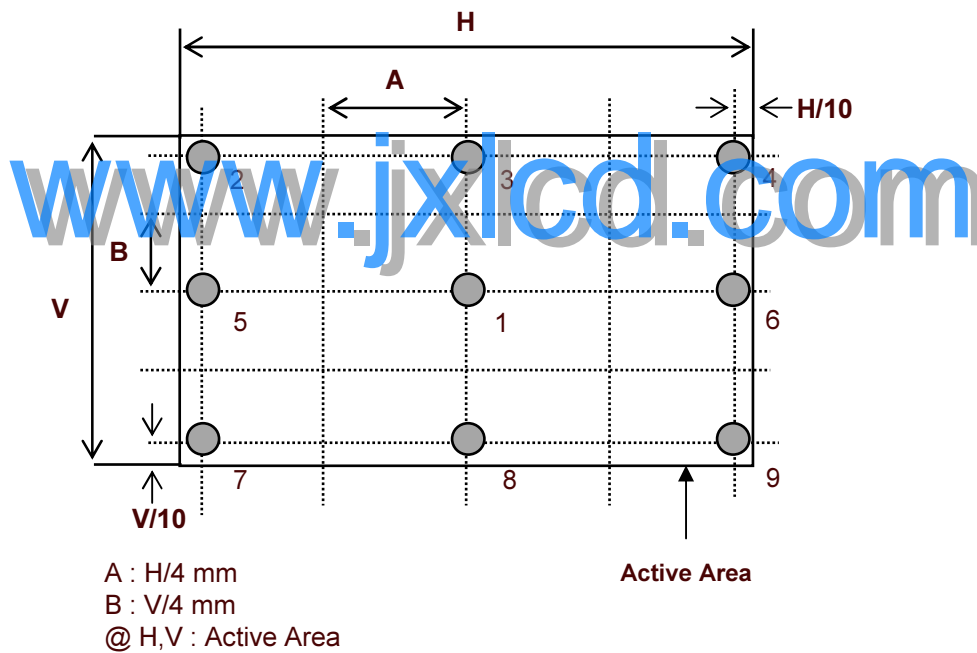

FIG. 2 Measure Point for Luminance
2. Surface luminance(L_{WH}) is luminance value at center point(P1) across the LCD surface 50cm from the surface with all pixels displaying white. For more information see FIG 2.